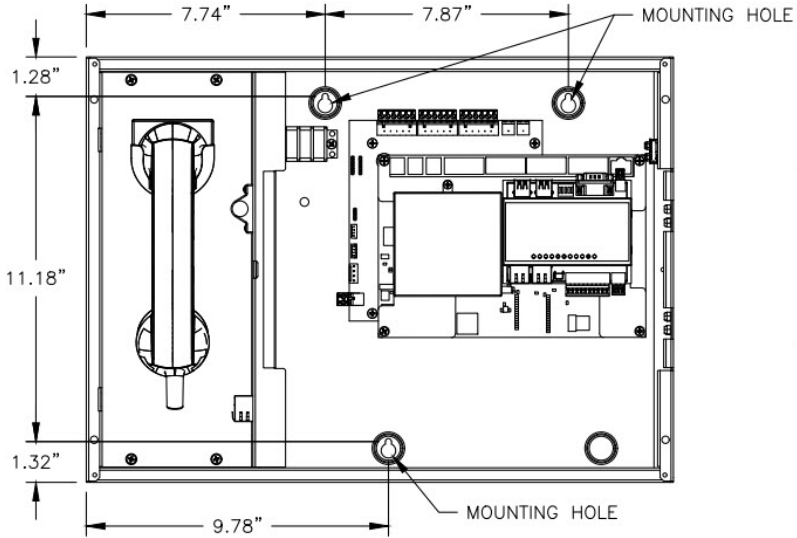

Figure 10. MX16US Enclosure and mounting hole dimensions
6. Keyhole mounting holes are provided for wall mounting as shown in Figure 10. Secure the unit to the wall using the appropriate mounting hardware required for the wall's construction.